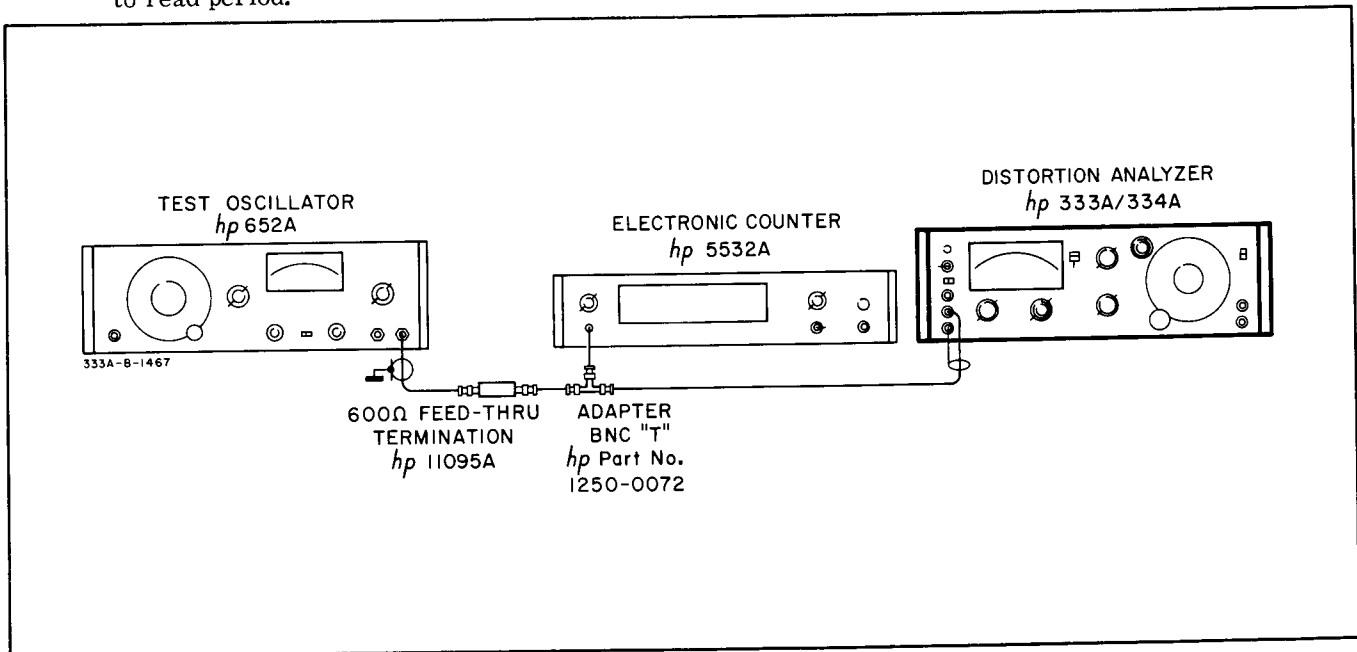

Figure 5-3. Frequency Calibration Accuracy Check
- a. Connect test equipment to 333A/334A as shown in Figure 5-3. Set electronic counter to read period.